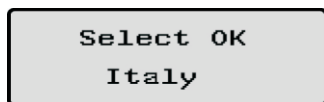

Fig 2-5-6
**F** Double knock to confirm your selection, LCD will display 'Select OK' with the country name in the below, as Fig 2-5-6.